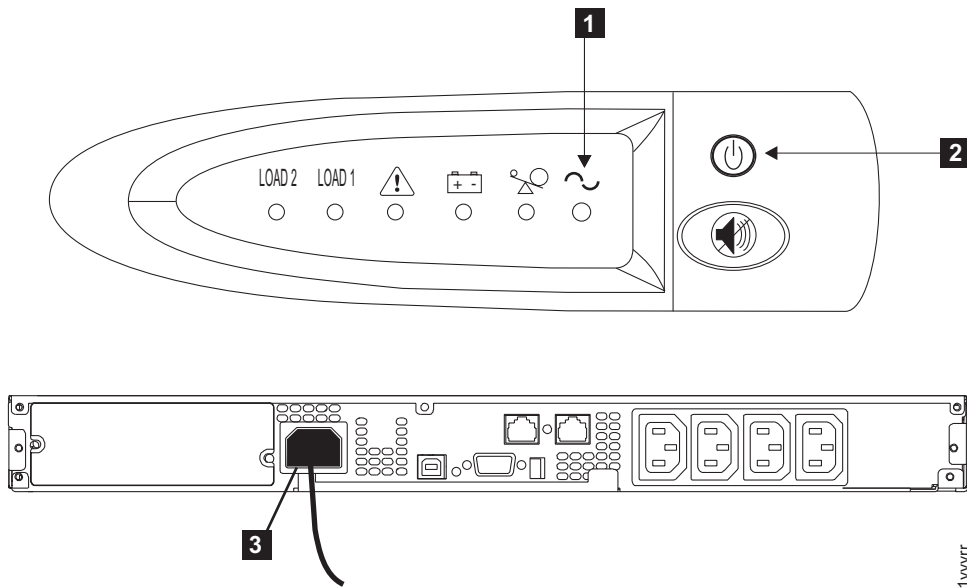

Figure 328. Front and back panels for the 2145 UPS-1U
2. Press and hold the on/off button **2** until the power light **1** is extinguished (approximately five seconds). On some versions of the 2145 UPS-1U, you need a pointed device, such as a screwdriver, to press the on/off button. The 2145 UPS-1U enters standby mode, with all indicators off. Figure 328 on page 316 illustrates the front and rear views of the 2145 UPS-1U.